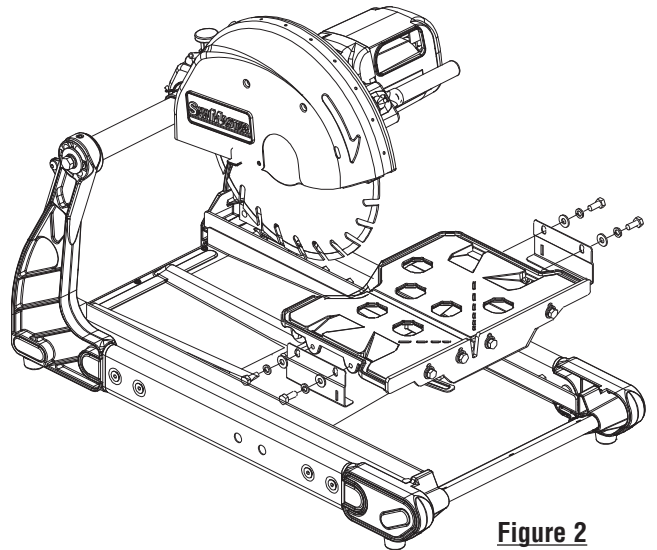

Figure 2
1. Set the cutting table on the rails. *Figure 2.*